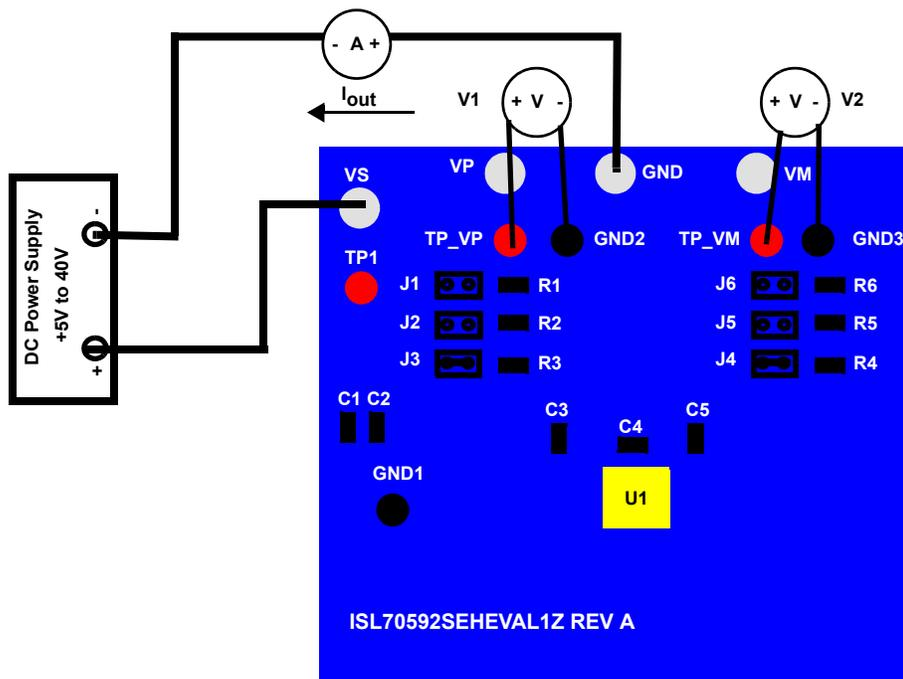

Figure 2. Basic Evaluation Test Setup Block Diagram
- (1) Configure the board as shown in Figure 2 on page 5.
- (2) Set the DC supply to 10V. Turn the DC power supply ON. The current in the ammeter should read approximately 0.99940mA.
- (3) Adjust the DC supply voltage to 5V. The current in the ammeter should read in the range of 0.9980mA to 1.004mA with a typical value of approximately 1.0009mA.
- (4) Adjust the DC supply voltage to 15V. The current in the ammeter should read in the range of 0.9980mA to 1.004mA with a typical value of approximately 1.0009mA.
- (5) Turn the DC supply OFF. Remove the jumpers from J₃ and J₄. Put the jumpers on J₁ and J₆. Set the DC supply to 5V. The current in the ammeter should read in the range of 0.9980mA to 1.004mA with a typical value of approximately 1.0009mA. The V₁ voltage should read approximately 4.01V, and the V₂ voltage should read in the range of 0.988V to 1.024V with a typical value of approximately 1.013V.
- (6) Set the DC supply to 10V. The current in the ammeter should read in the range of 0.9980mA to 1.004mA with a typical value of approximately 1.0009mA. The V₁ voltage should read approximately 9.03V, and the V₂ voltage should read in the range of 0.988V to 1.024V with a typical value of approximately 1.013V.
- (7) Turn the DC supply OFF. Remove the jumpers from J₁ and J₆. Place jumpers on J₂ and J₅. Set the DC supply to 10V. The current in the ammeter should read in the range of 0.9980mA to 1.004mA with a typical value of approximately 1.0009mA. The V₁ voltage should read approximately 9.93V, and the V₂ voltage should read in the range of 98.8mV to 111.7mV with a typical value of approximately 110.9mV.
- (8) Set the DC supply to 15V. The current in the ammeter should read in the range of 0.9980mA to 1.004mA with a typical value of approximately 1.0009mA. The V₂ voltage should read in the range of 98.8mV to 111.7mV with a typical value of approximately 110.9mV.